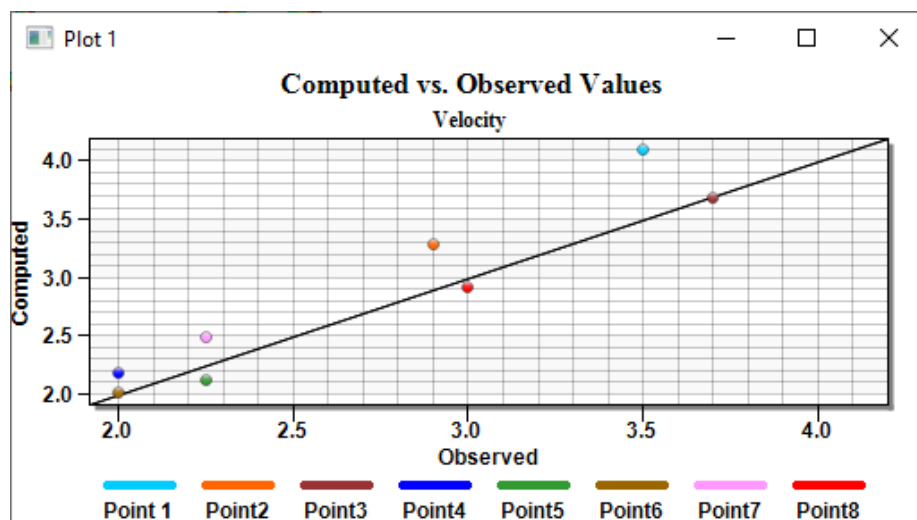
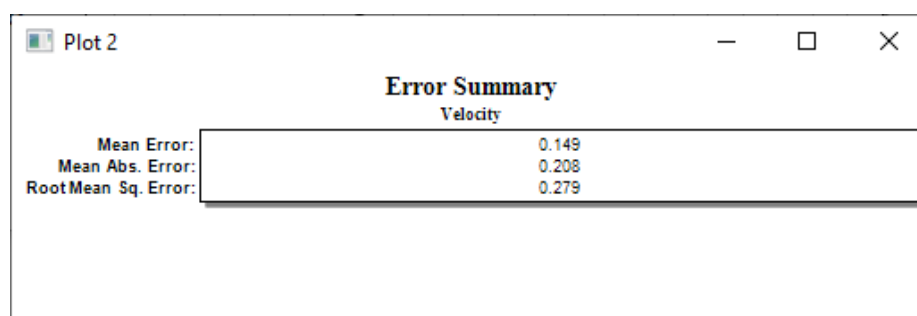

Figure 8 Computed vs. Observed Data plots using the Velocity dataset
Figure 9 Error Summary using Velocity dataset
3. In the top section, select “Velocity” from the *Measurement* drop-down and click **Finish** to close the *Plot Wizard* and bring up the *Plot 1* dialog (Figure 8).
Both plots have now been created (Figure 8 and Figure 9). Each plot exists in a separate window that can be resized, moved, and closed at any time.